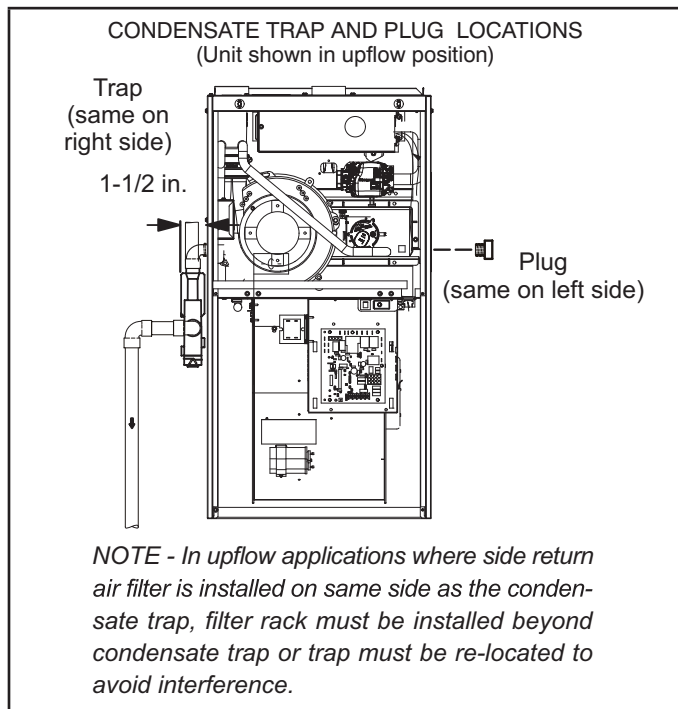

FIGURE 45
- 2 - Use a large flat head screw driver or a 1/2" drive socket extension and remove plug (FIGURE 45) from the cold end header box at the appropriate location on the side of the unit. Install provided 3/4 NPT street elbow fitting into cold end header box. Use Teflon tape or appropriate pipe dope.